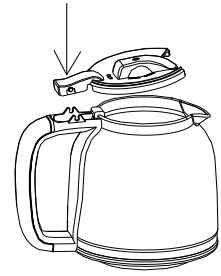

Fig.1
2. Then press the lid on the arrow position with a little force (see Fig.1); the notches will be pressed into the groove. The lid is assembled on the carafe.
The marks indicate the bean quantity for making coffee (Fig. 1). Do not overfill. Assemble the grinder box into the coffee maker. The connector groove must be locked into the motor shaft (Fig. 2). Otherwise, the grinder box will not be assembled in place properly, and it may damage the grinder box.